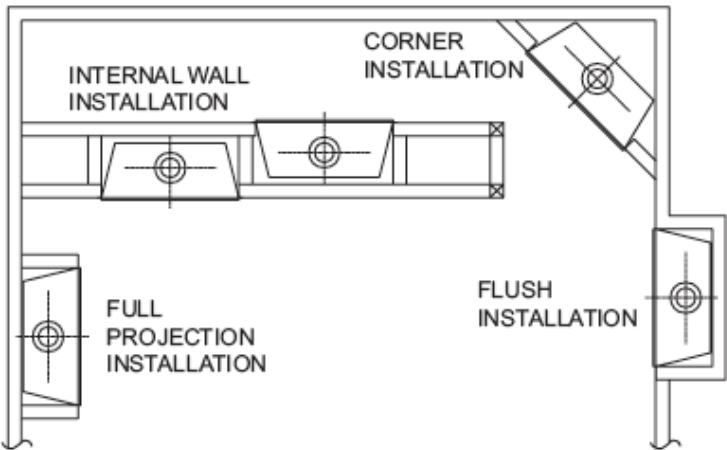

Figure 2 - Possible Locations for Installing Appliance
- 3. A location that avoids the cutting of joists or roof rafters will make installation easier. Figure 2 shows a plan view of a few common locations.